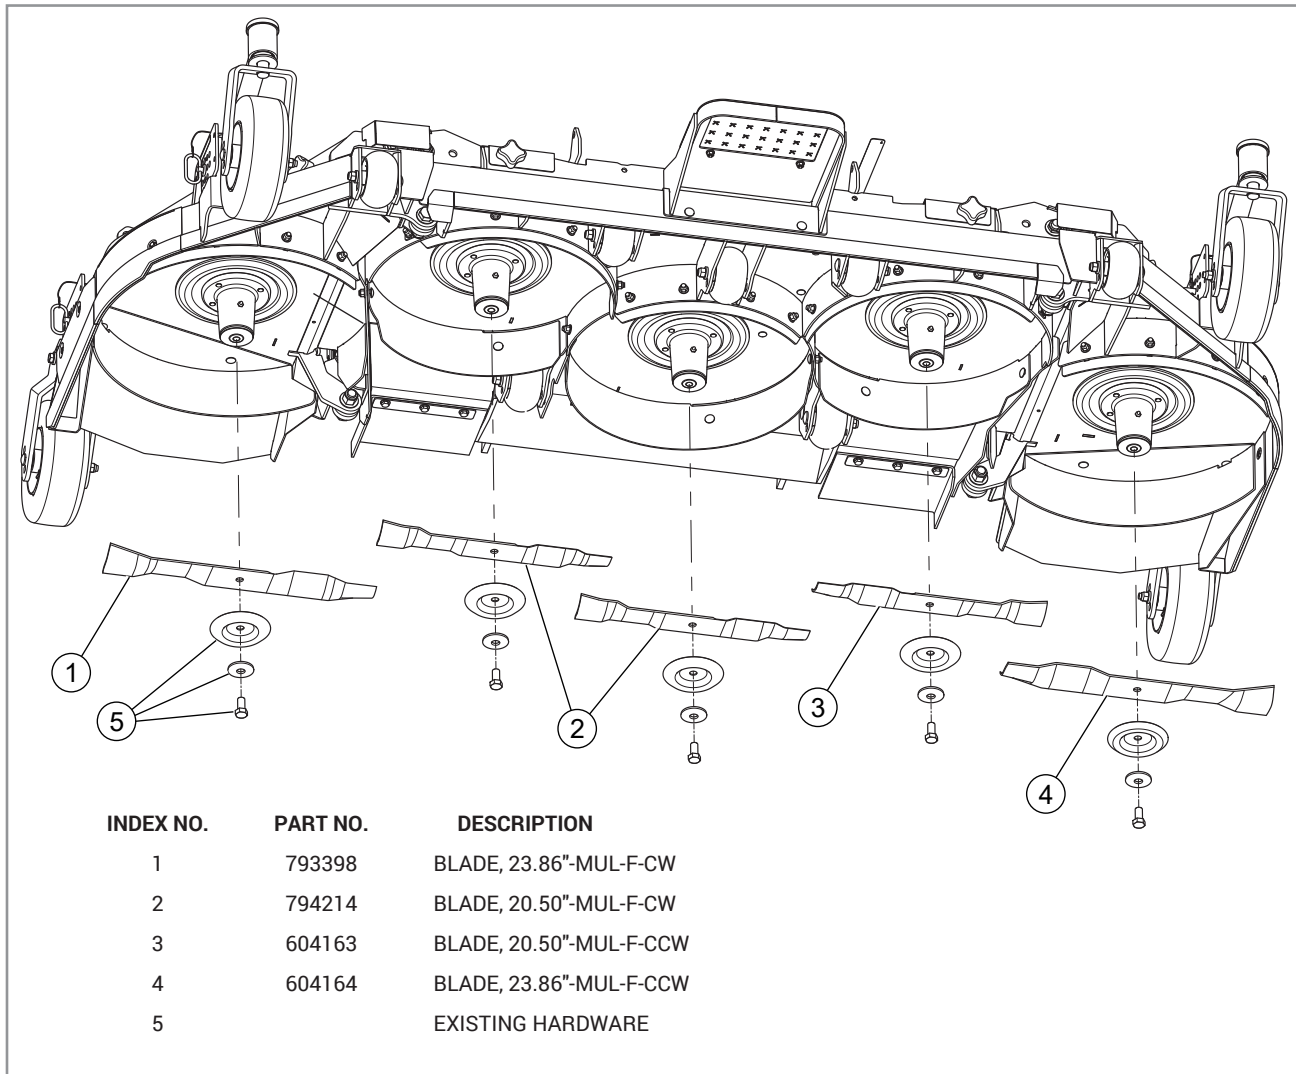

FIG. 4
**10. Install the mulching blades on the spindles using the existing blade hardware. Torque the bolts to 118 ft-lbs (160 N•m). FIG. 4**